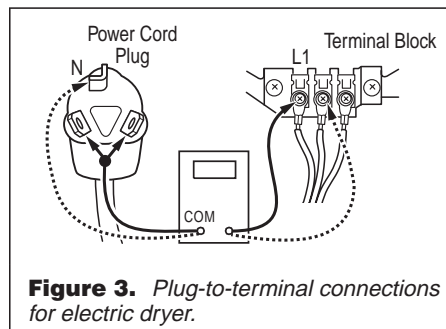

Figure 3. Plug-to-terminal connections for electric dryer.
1. With an ohmmeter, check for continuity between the neutral (N) terminal of the plug and the center contact on the terminal block. See figure 3.
2. In a similar way, check which terminal of the plug is connected to the left-most contact on the terminal block and make a note of it. This will be L1 (black wire) in the wiring diagram. See figure 3.